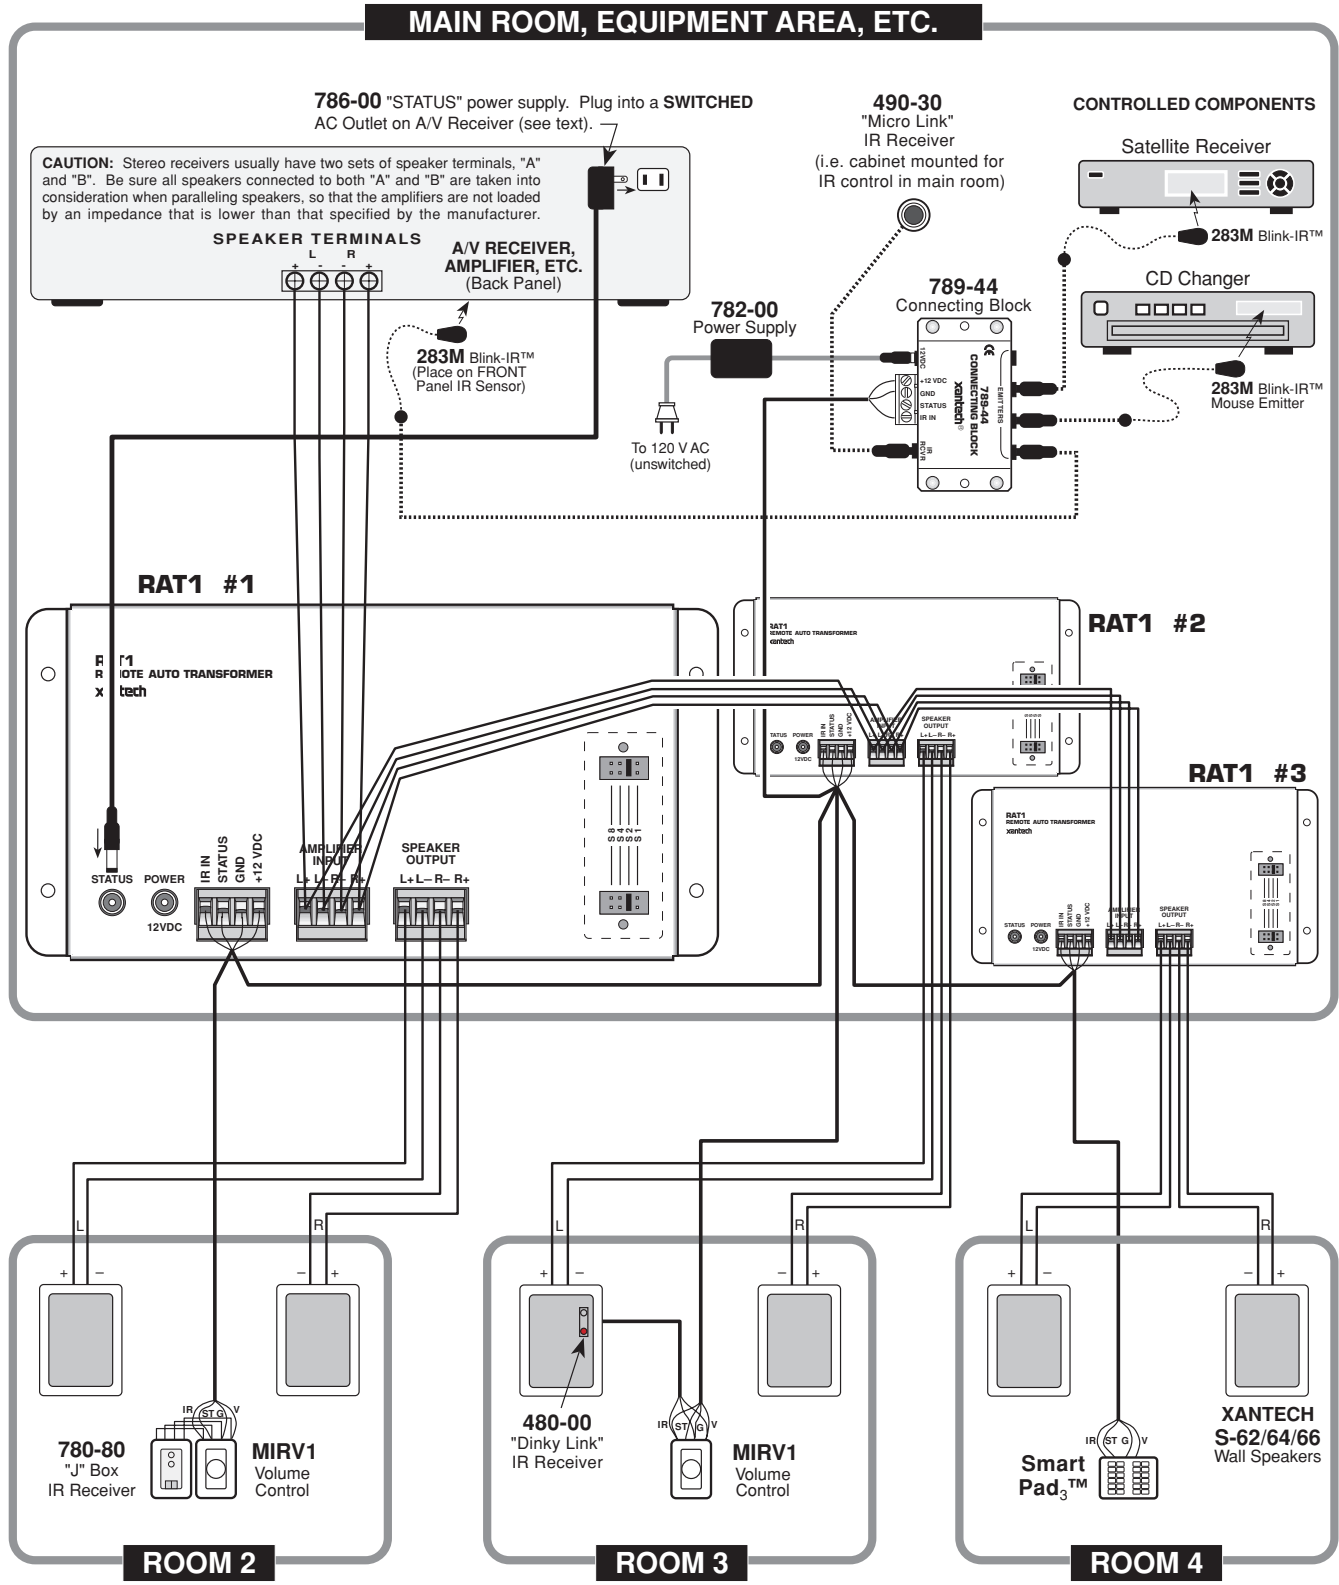
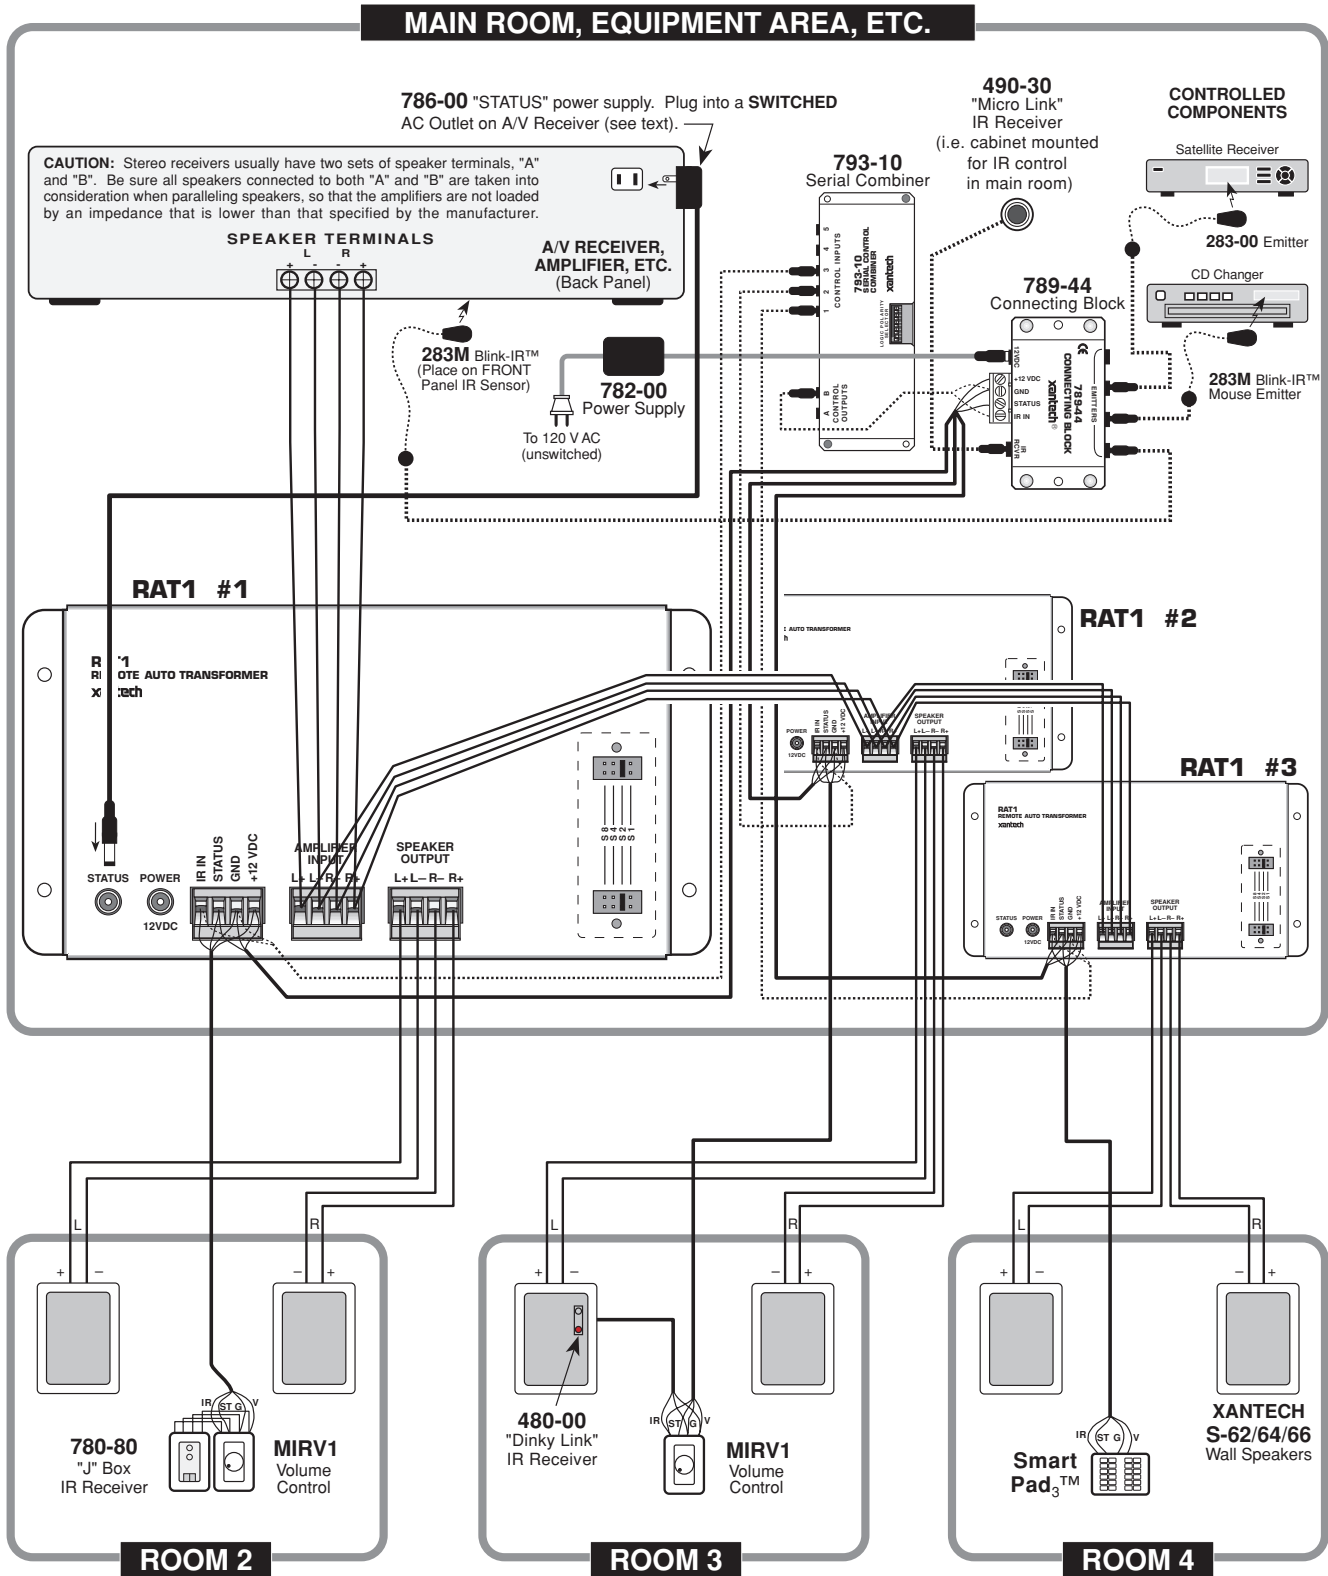

Fig. 3 A RAT1 System Using a Common IR Bus
Fig. 4 A RAT1 Dedicated IR Bus System
Fig. 3 illustrates a typical installation using three RAT1's along with other Xantech products in a 4-room multi-room system. The principles shown should be used as a guide when planning your own specific installations. It is configured as follows:
If you wish to carry remotes that have the same codes from room-to-room, use a Dedicated IR Bus System as shown in **Fig. 4**.
Up to 3 RAT1's plus associated MIRV1's and IR components can be used with one 782-00 Power Supply. (e.g. 9 RAT1's with associated components would require 3 of the 782-00 Power Supplies). Typical power supply connections are shown in **Figs. 3, 4 and 6**.
Fig. 4 illustrates an installation where each remote room has a Dedicated IR Bus going to the RAT1 that controls it. The IR bus is not connected in common as it is in **Fig. 3**. This eliminates the need for dedicated remotes, *allowing you to carry the same remote(s) from room-to-room*. It is configured as follows:
3. In order to control the common source components in a Dedicated IR Bus system, it is necessary to use a 793-00 Serial Control Combiner, connected as shown in **Figs. 4 & 5**. The 793 provides diode isolation between the IR signal lines but allows common operation of the source equipment through the 789-44 Connecting Block, as shown.
8. As in **Fig. 3**, a "STATUS" system is included.